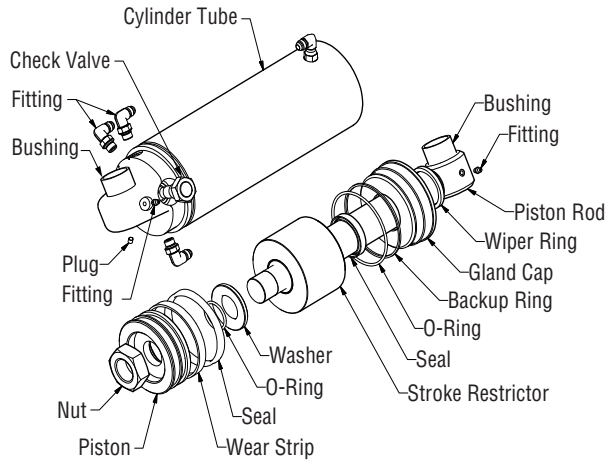

Figure 5-36, Cylinder Assembly
6. Remove the piston retaining nut and remove the piston. (Figure 5-36)